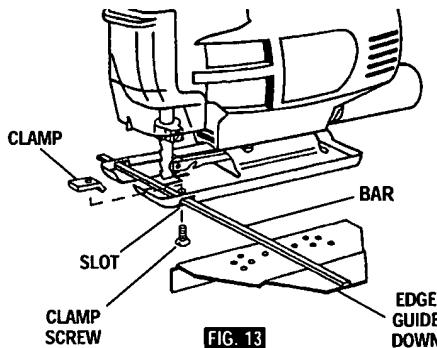

FIG. 13
This accessory is available at an extra cost. It is used for fast and accurate straight and circle cutting (Fig. 13).
1. Insert bar of rip fence through the slots provided in foot, from either side of foot with the edge guide facing down (Fig. 13).